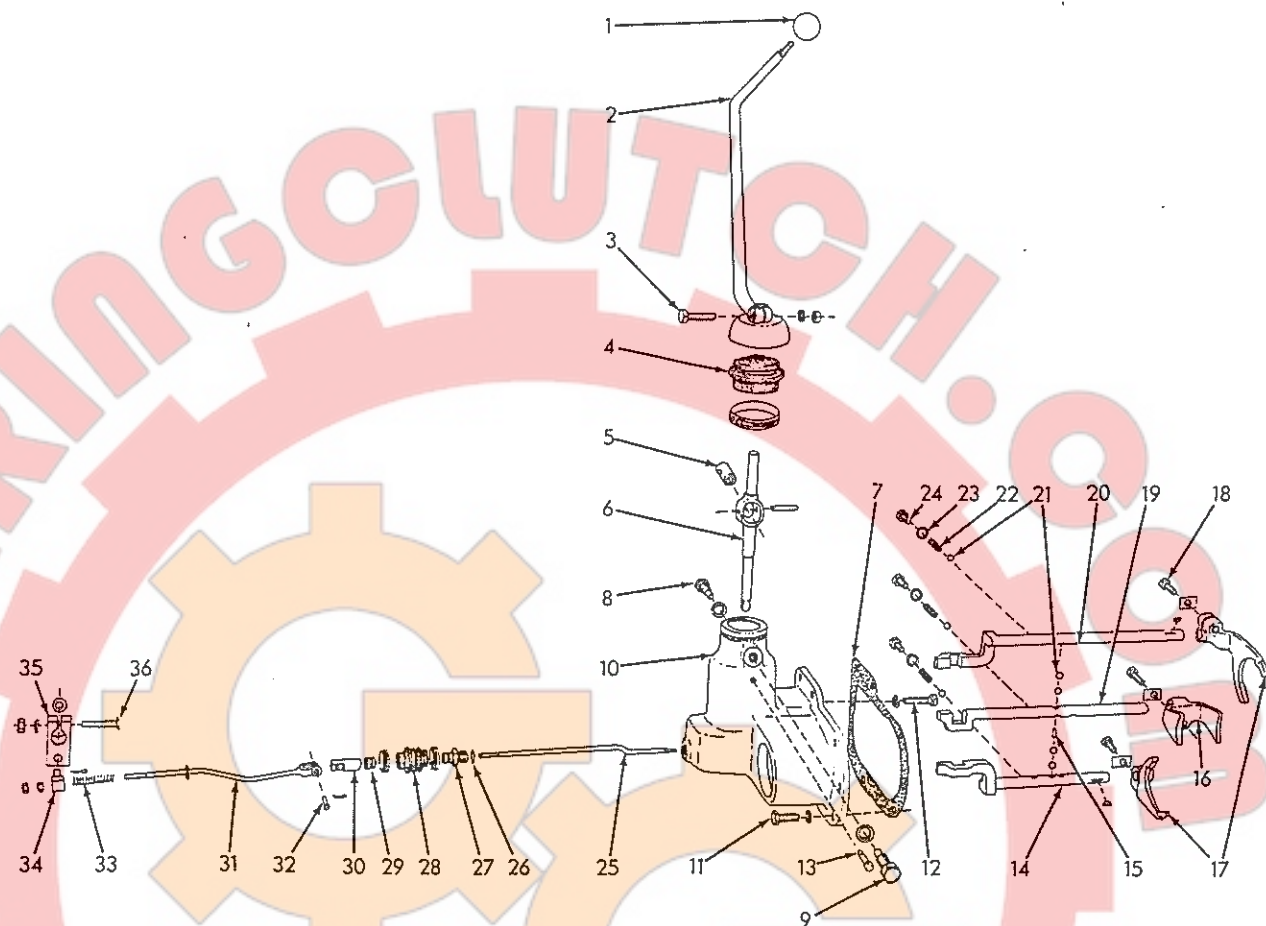

Fig. 14 Gear Shift Details
- c. Install interlock pin Fig. 14 (15) in intermediate shifting shaft (19); push shaft through transmission case and middle shifting fork until interlock pin in shaft is directly above detent balls previously installed. Install detent balls (21) in their bore above shaft.
- d. Insert upper shifting shaft Fig. 14 (20) through upper shaft bore in transmission case. Install woodruff key in shaft; push shaft through rear shifting fork until center detent notch in shaft is aligned with detent ball bore in transmission case.
- e. Install detent ball, Fig. 14 (21) and spring (22) in each of three tapped holes on right front side of transmission case. Start capscrews (with
f. Position shifting forks on shafts and sliding gears on pinion shaft to obtain maximum tooth contact between mating gears when engaged and clearance between gears when in neutral. Clamp shifting forks to shafts by torquing capscrews, Fig. 14 (18) to 83 to 93 lbs. ft. Return all shafts to neutral position; tighten capscrews, Fig. 8 (9).
g. Install locking plunger sleeve and washer, Fig. 14 (27) (26) in shift lever housing; install locking plunger (25) through sleeve from rear side of housing.
i. Coat I.D. at each end of locking plunger boot, Fig. 14 (28) with "Neoprene" cement; clamp one end of boot to locking plunger sleeve. Turn nut (29) to end of threads on locking plunger; install locking plunger end (30) and lock against nut (29). Clamp end of boot (28) to plunger end.
j. Install shift lever, Fig. 14 (6) in shift lever housing; make certain lower end of lever is in notched ends of shifting shafts. Secure shift lever with pivot screws (8) (9); install screw with tapped head (8) in right side of housing. Install shift lever boot (4); secure with clamp.
k. Install gear shift lever, Fig. 14 (2); push lever down so top of shift lever (6) is above clamping boss; tighten clamping capscrew.